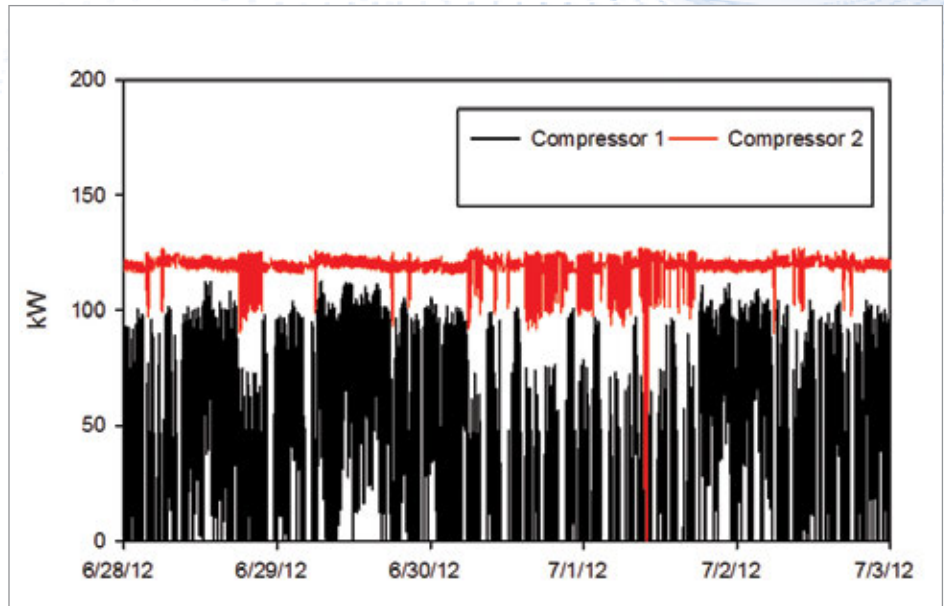

Figure 2: Baseline Data Log of the Existing Compressed Air System
The existing compressors at the facility were identical 150-hp, single-stage, load/unload rotary screw compressors. The specific efficiency of these compressors was rated by CAGI as 18.7 kW/100 cfm at full load (2), and each of the compressors was capable of producing 678 acfm. Baseline energy usage collected by data loggers indicated that one of the compressors ran at nearly full load, while the trim compressor loaded and unloaded to control system pressure (Figure 2).